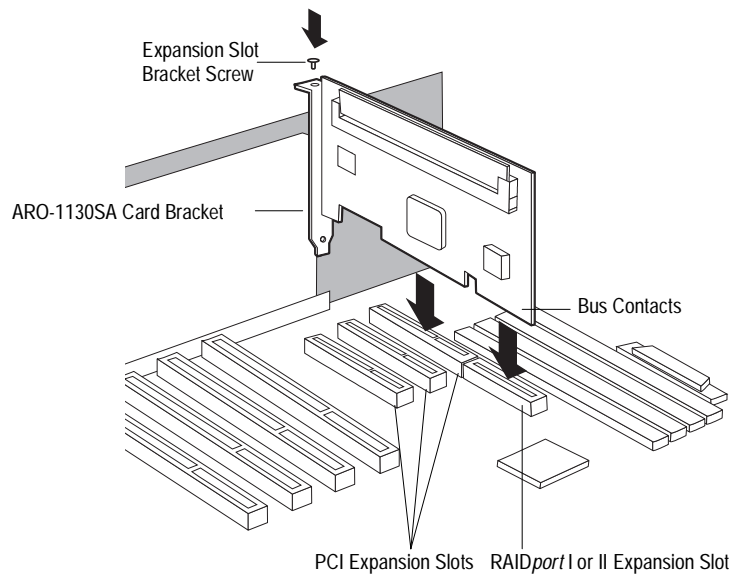

Figure 2-3. Installing the ARO-1130SA in a Typical PCI/RAIDport I or II Expansion Slot
- 4 Insert the ARO-1130SA in the slot; press down firmly so that the bus contacts are securely seated in the slot. Secure the adapter bracket with the screw you removed in Step 3, as shown in Figure 2-3.